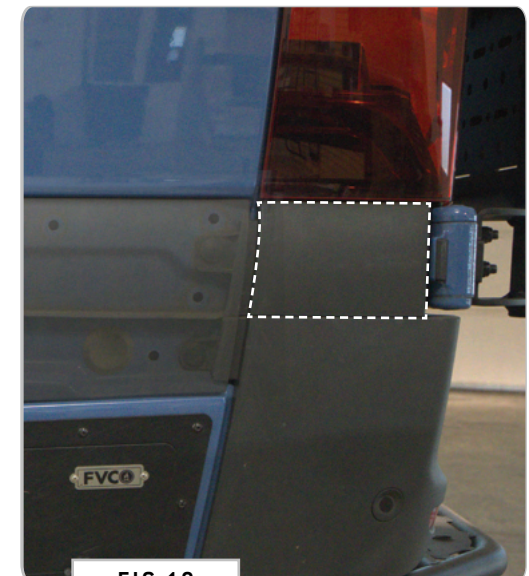

FIG 18
3.3 Reinstall Upper Rear Bumper Trim: Using the **Plastic Rivets** that you retained in **Step 2.2**, secure the small plastic cover (below the taillights) back to the body (FIG 18).